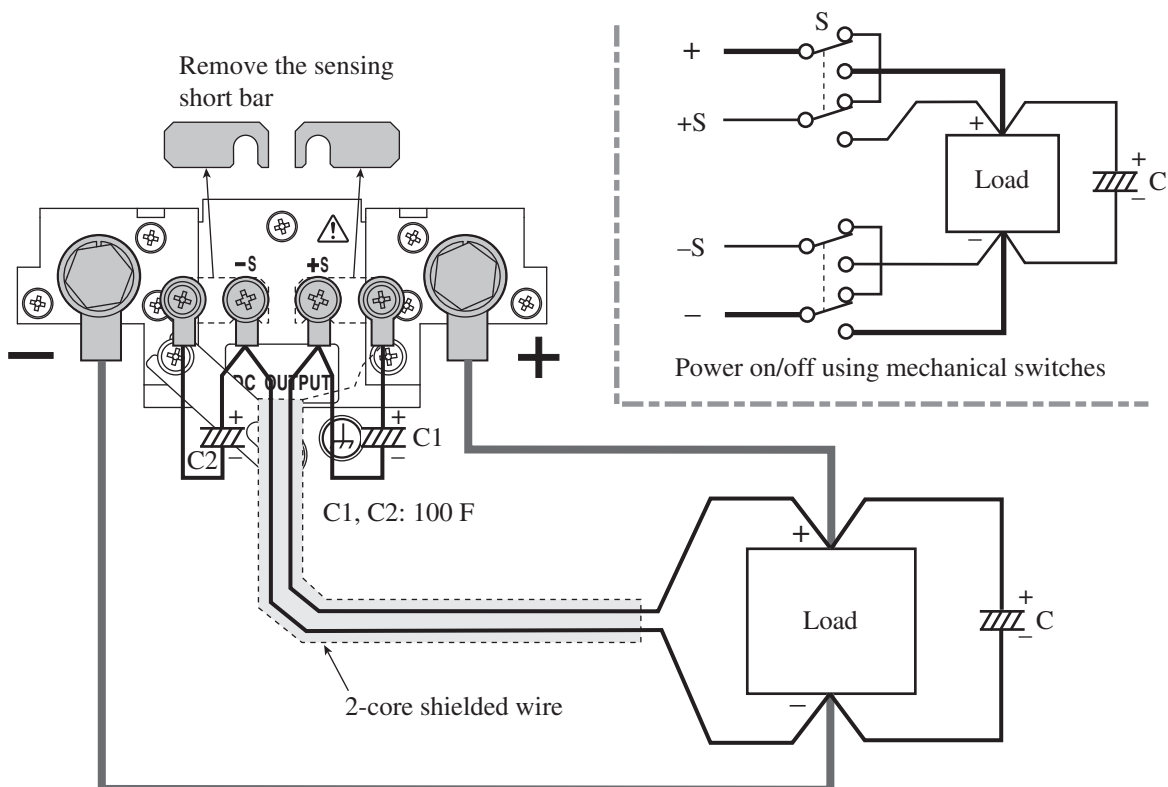

Fig.4-1 Remote sensing connection
3. As shown in Fig. 4-1, remove the short bar for sensing.
4. As shown in Fig. 4-1, wire the sensing wire to the sensing terminals (+S terminal and -S terminal) and the load end.
When using a mechanical switch	To turn on/off the power supplied to a load using a mechanical switch, provide additional switches between the sensing wires as shown in Fig. 4-1 and turn on/off the load cable and remote sensing wires simultaneously.